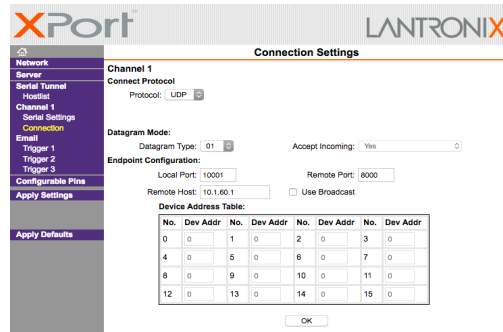

Figure 3 Xport settings CompLex
Step 3. When the computer prompts for username and password, hit enter to skip. On the left side of the screen click on 'connection'. A screen will open and you will see a layout like figure 3. In the window of '**Remote Host**', fill in the **ip-address of your computer**. Your computer is the remote host. The remote port is set to 8000. The local port is set to 10001. Hit ok (this is important) to confirm and press '**Apply settings**'. The webserver of the CompLex is now rebooting and ready to be used.